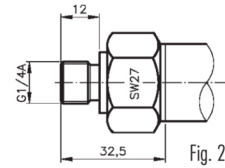
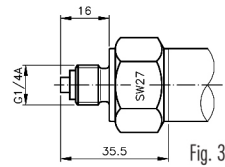
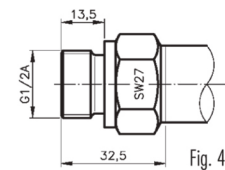
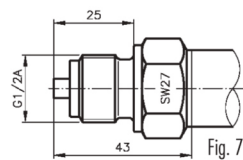

Fig. 2
Fig. 3
Fig. 4
Fig. 7
(4) Process connection available ≤ 600 bar
(5) Cable socket connector not included
(6) Please specify the required cable length and medium
(7) Only with pressure connection Fig. 2, Fig. 3, Fig. 4, Fig. 7 and Fig. 8